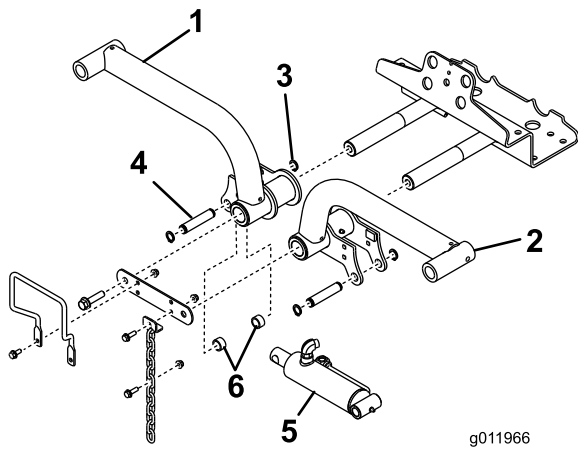

Figure 15
4. Insert the lift arms onto the lift arm pivot shafts (Figure 15), and secure each with a lift arm pivot shaft link and bolts previously removed.
- Secure the right end of the lift cylinder to the right lift arm with a pin and 2 spacers (Figure 15). Secure it with a retaining ring.